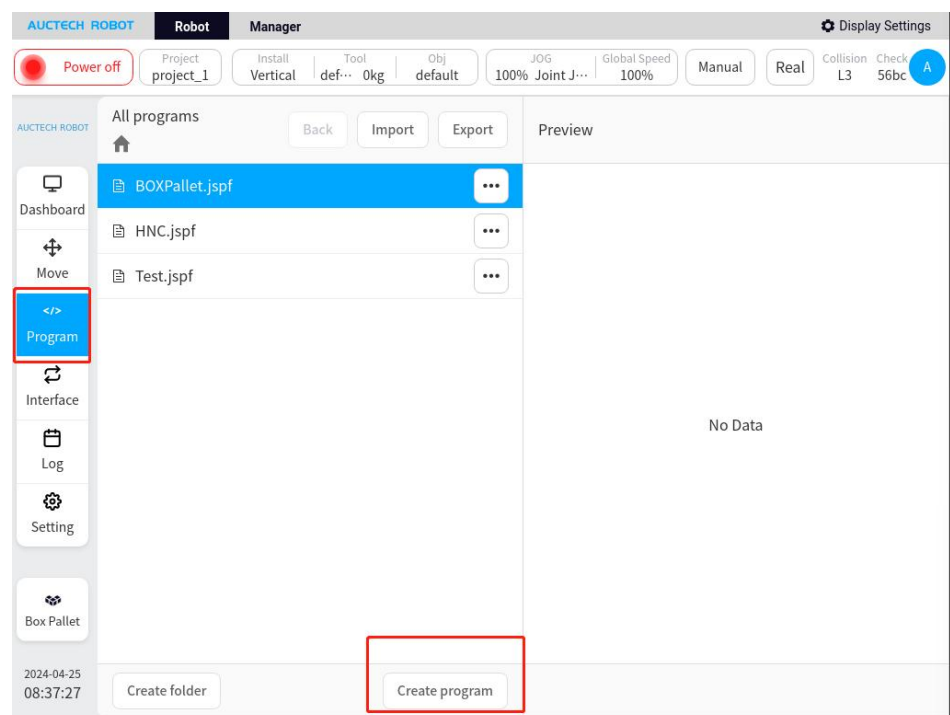
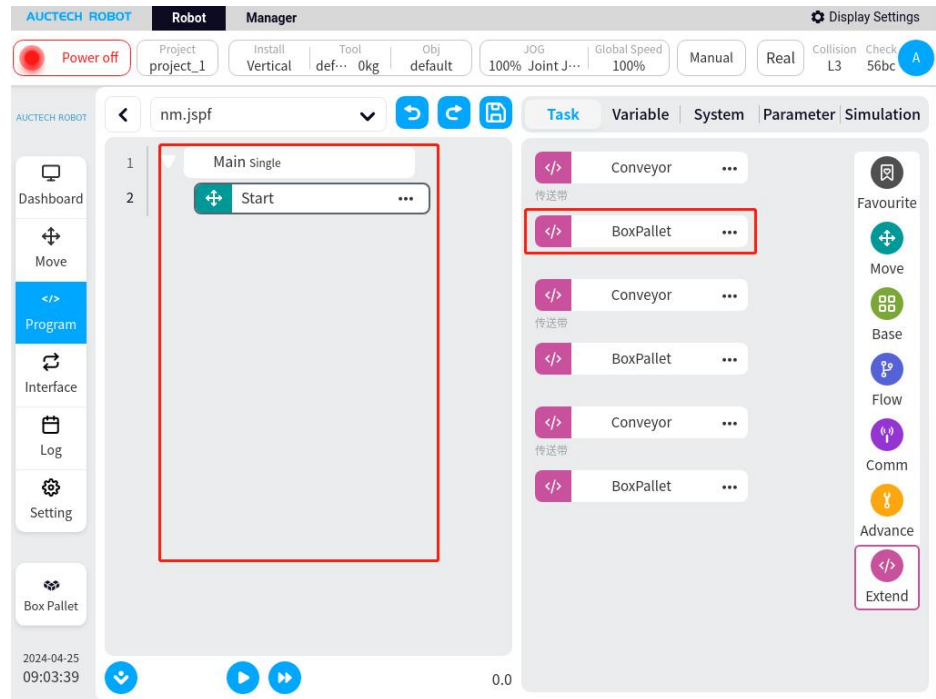

Figure 6
Figure 7
9、Enter the program name and click the “OK” button (as shown in Figure 6) to enter the script setting interface (as shown in Figure 7).